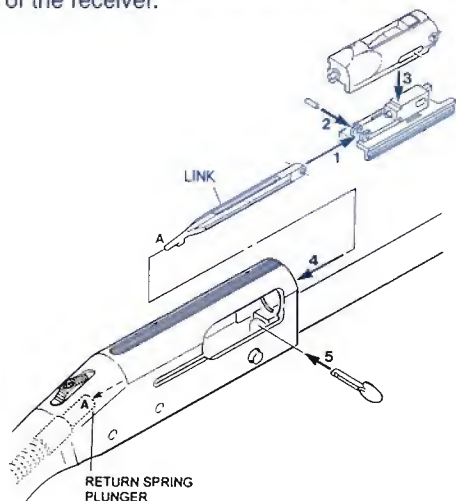

Figure 13
1. Position link in slot in rear of slide (Figure 13).